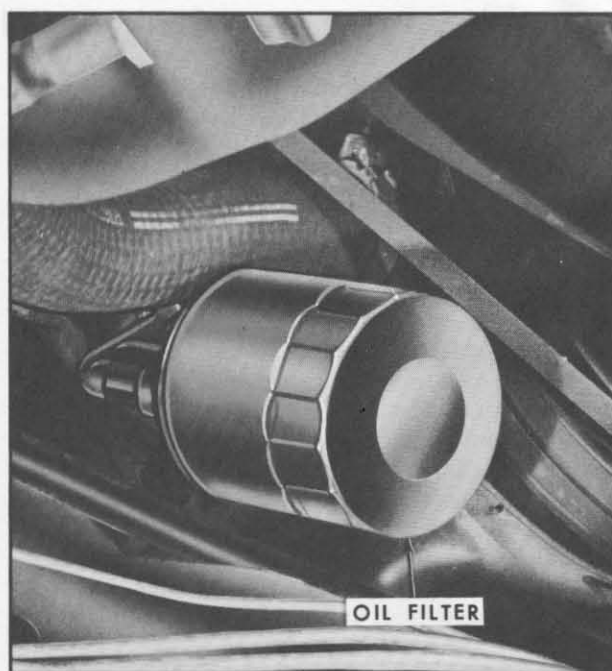

Fig. 0-11 Engine Oil Filter
c. Engine Oil Filter (Fig. 0-11)
The oil filter is mounted on the front right side of the engine, Fig. 0-11. Access to the filter is gained from under the car. Replacement procedure is as follows: